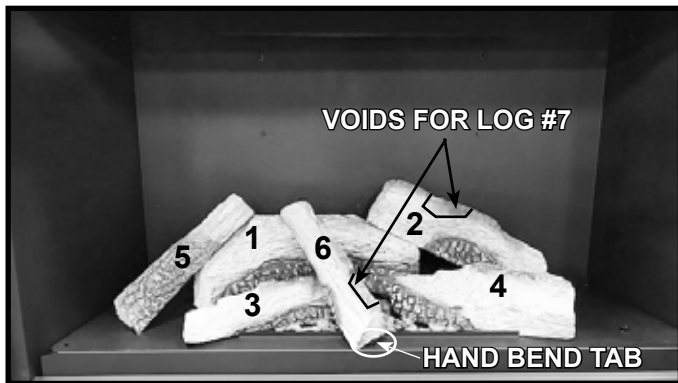

Figure 10. Install Log #6
8. **LOG #6:** Log #6 will rest on the voids of Log #1 and Log #3 and the base pan lip as shown in Figure 8. Install log by placing it on top of the log voids. The tip of the log will contact the hand bend tab nearest the base pan lip. See Figure 10.
9. **LOG #7:** Log #7 will rest on the two voids of Log #2 and Log #6 as shown in Figure 10, install log by placing it on top of these voids. Place the log so that the bark detail faces the back wall of the firebox. See Figure 11.